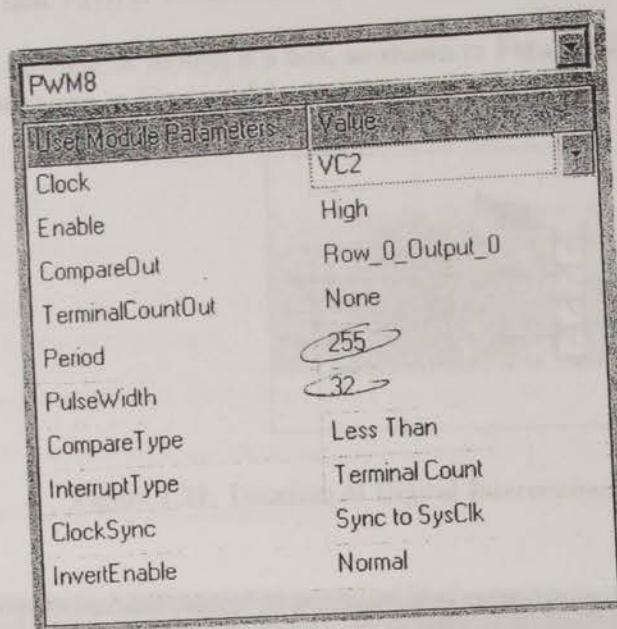

Figure 1.20: Parameters for PWM8.
- Set its parameters as shown Figure 1.20.
This configuration is shown in Figure 1.20.